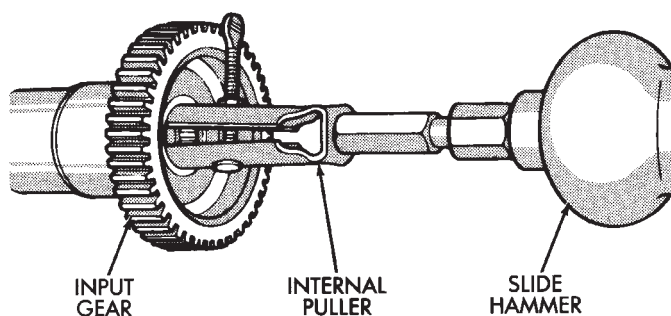

Fig. 42 Removing Input Gear Pilot Bearing
(9) Remove mainshaft pilot bearing from input gear with slide hammer and suitable size internal puller (Fig. 42).